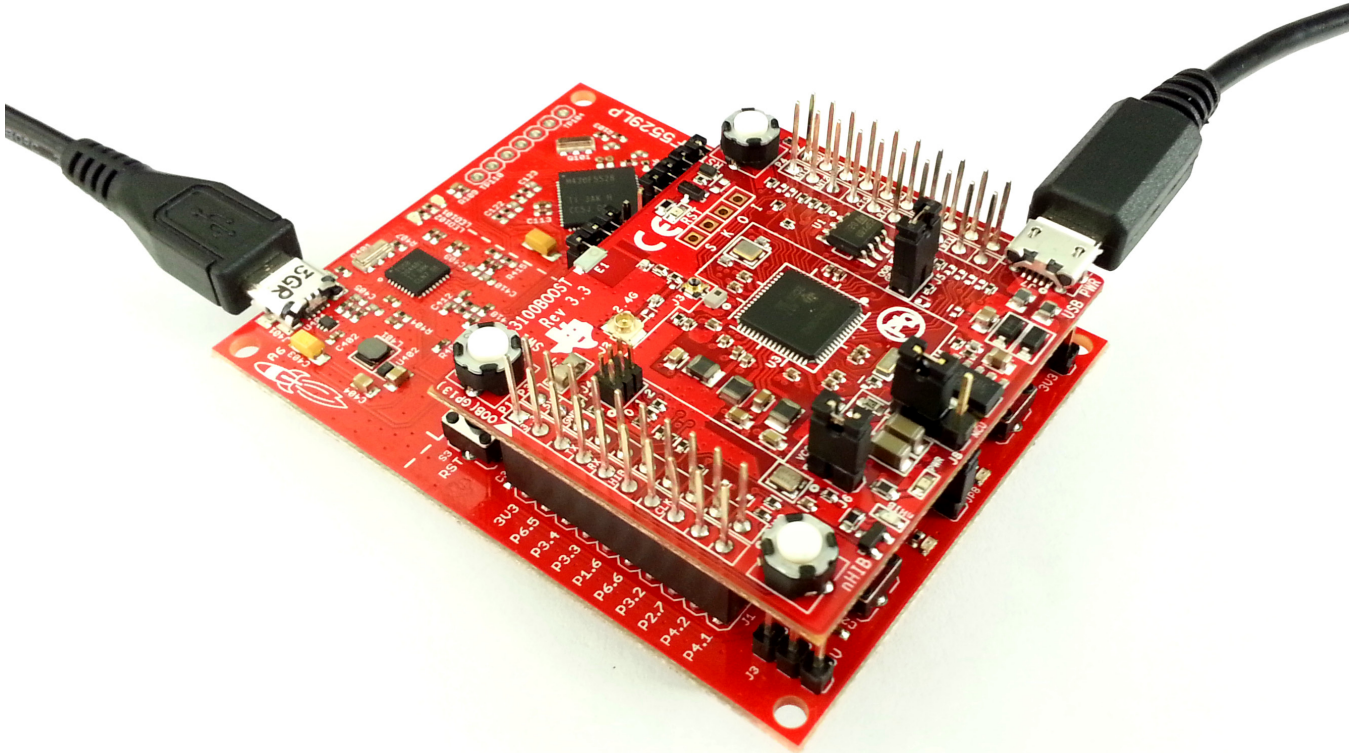

Figure 10. Connect the CC3100BOOST to the MSP430F5529 Launchpad
3. Connect the CC3100BOOST to the MSP430F5529 Launchpad as shown in Figure 10.